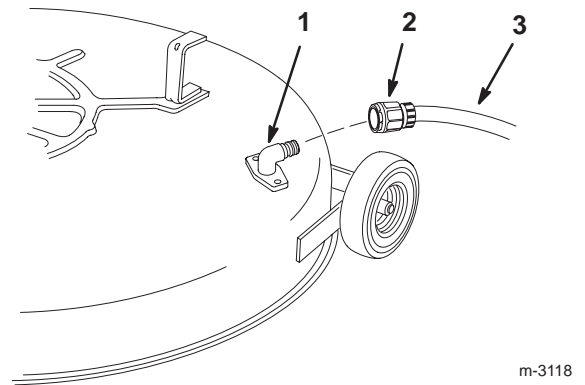

Figure 48
5. Attach the coupling to the end of the mower washout fitting and turn the water on high (Fig. 48).